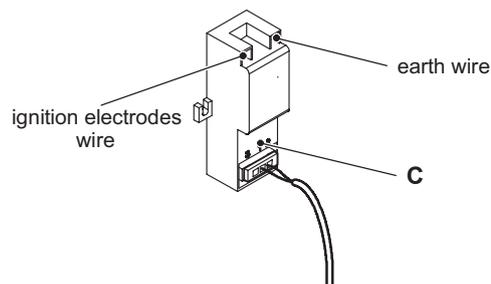

Figure 18.3
**When reassembling the ignition electrodes be sure to connect correctly the wires to the spark generator (Figure 18.3.)**